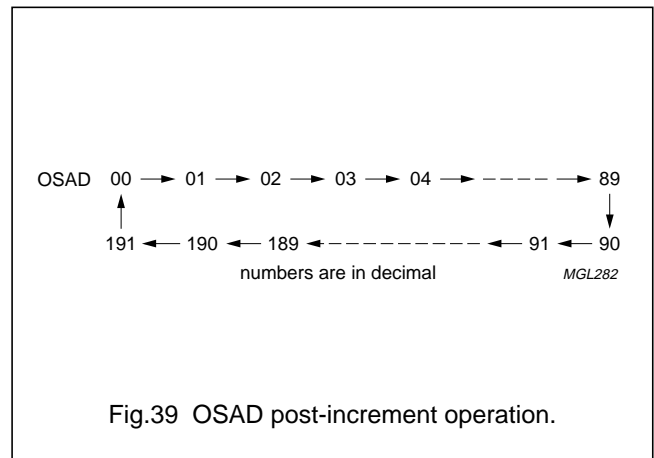

Fig.39 OSAD post-increment operation.
4. Post increment operation is executed in OSAD (OSAD ← OSAD + 1) making it point to the next RAM location. On overflow OSAD is cleared. Figure 39 shows the post-increment operation.